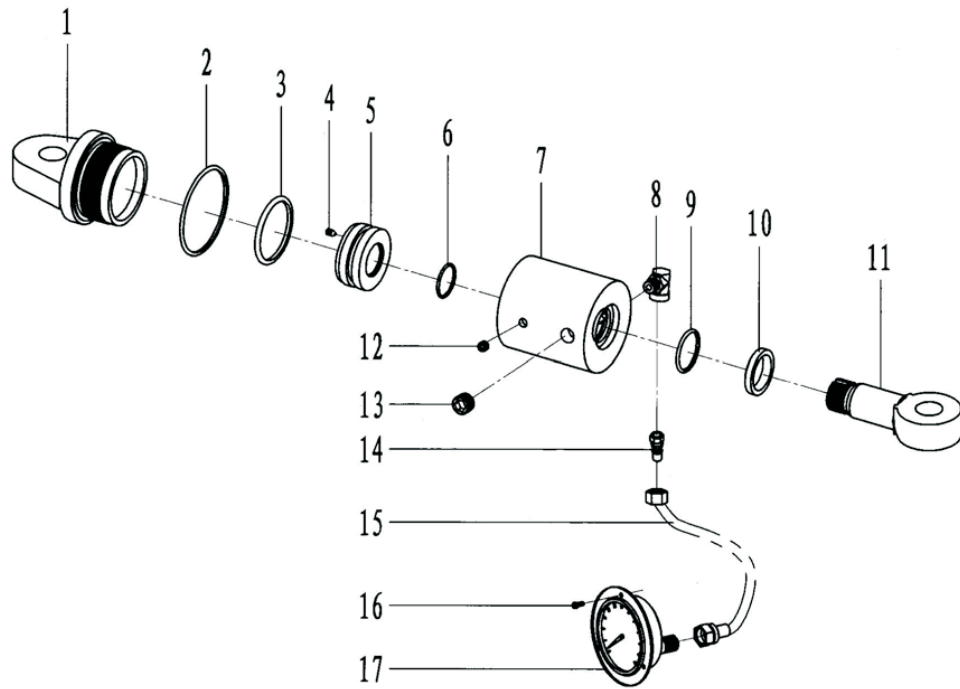

Fig.20
7.17 Master tong torque test assembly(Fig.20,Table20)